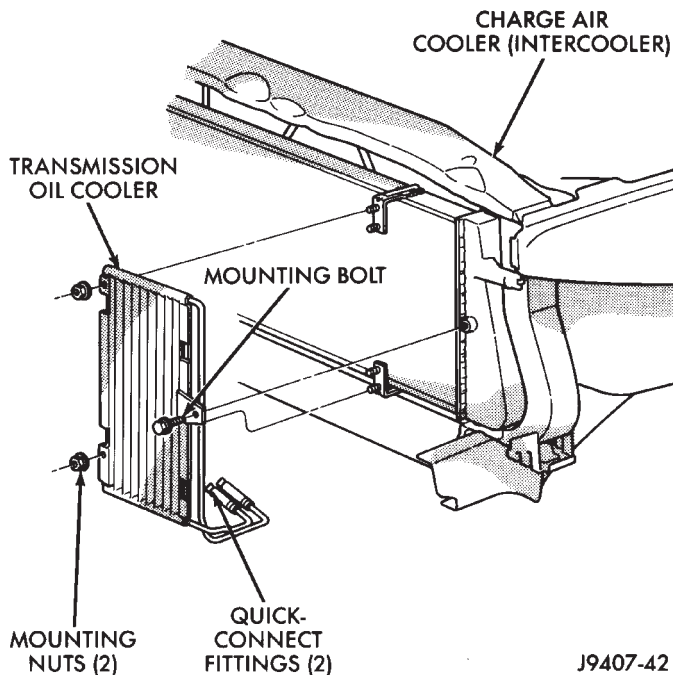

Fig. 80 Auxiliary Transmission Oil Cooler—Diesel Engine
- (1) Remove front bumper. Refer to Group 23, Body.
- (2) Place a drain pan under the oil cooler.
- (3) Raise the vehicle.
- (4) Disconnect the oil cooler quick-connect fittings from the transmission lines. These are located near the power steering gearbox. Refer to Group 21, Transmissions for procedures.
- (5) Remove the charge air cooler-to-oil cooler bolt (Fig. 80).